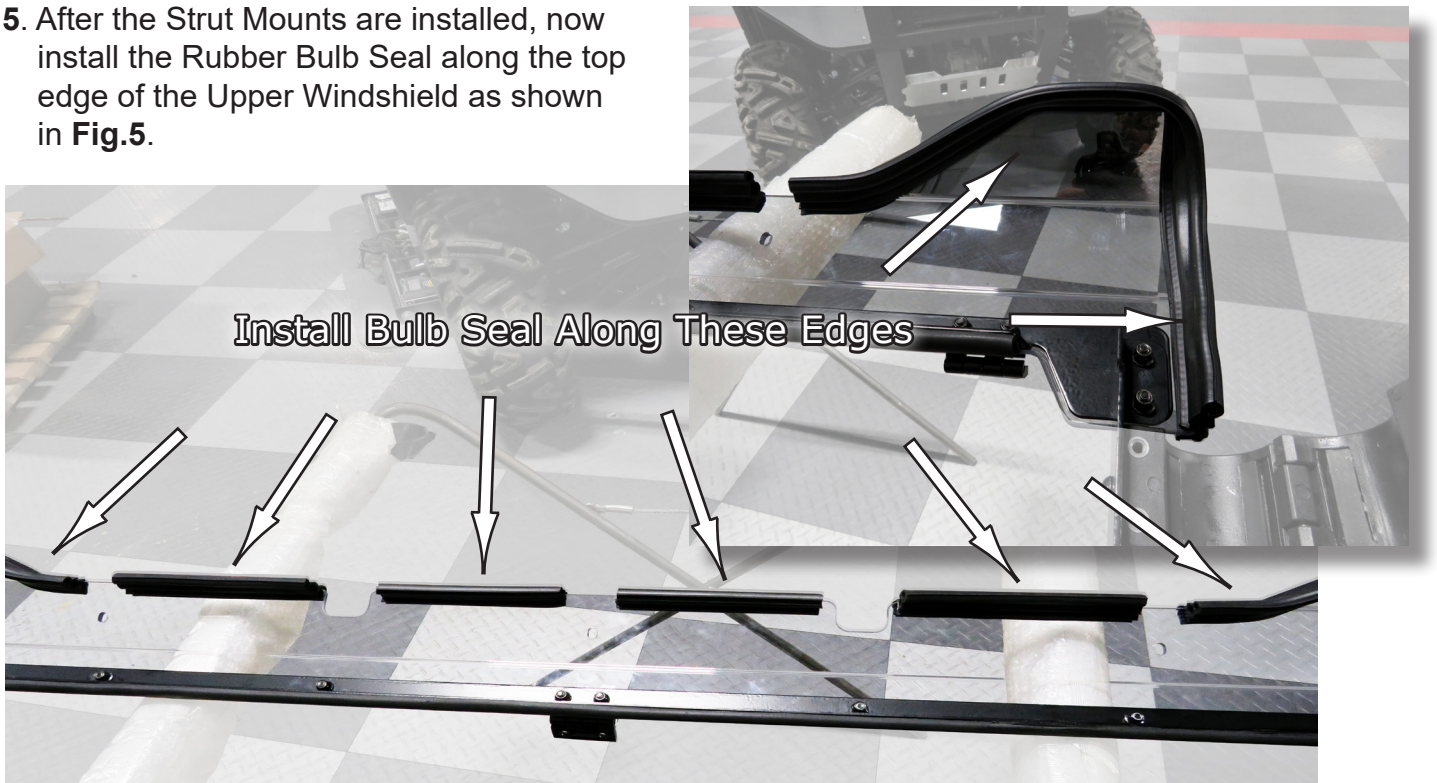

Fig.5
5. After the Strut Mounts are installed, now install the Rubber Bulb Seal along the top edge of the Upper Windshield as shown in **Fig.5**.